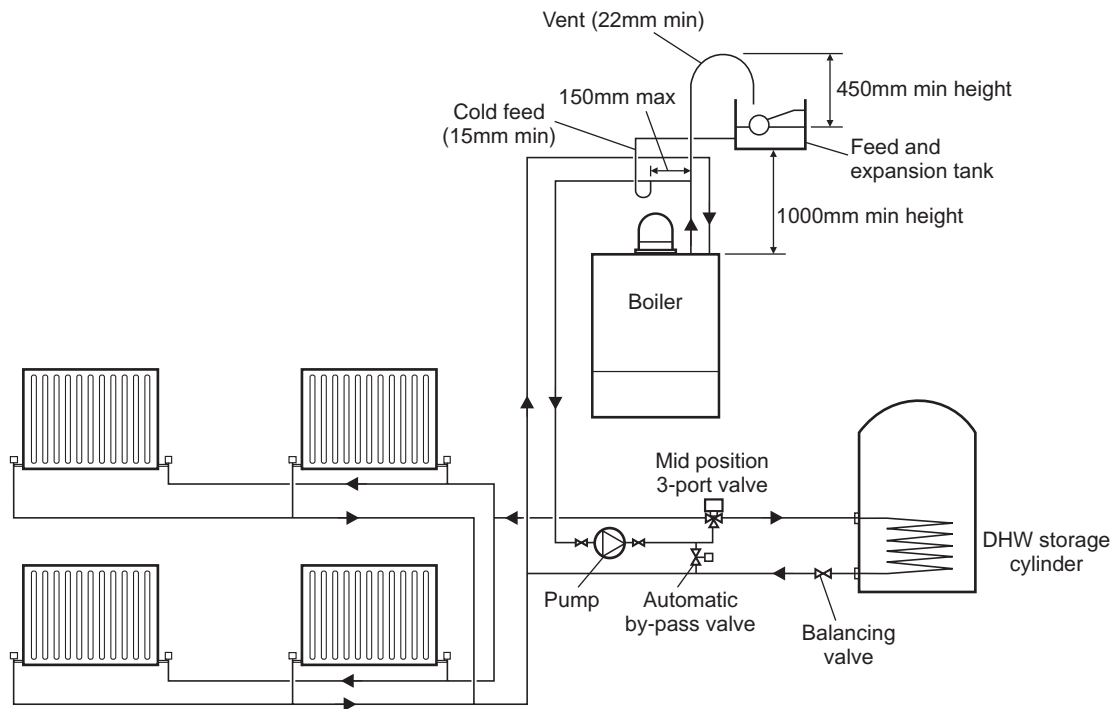
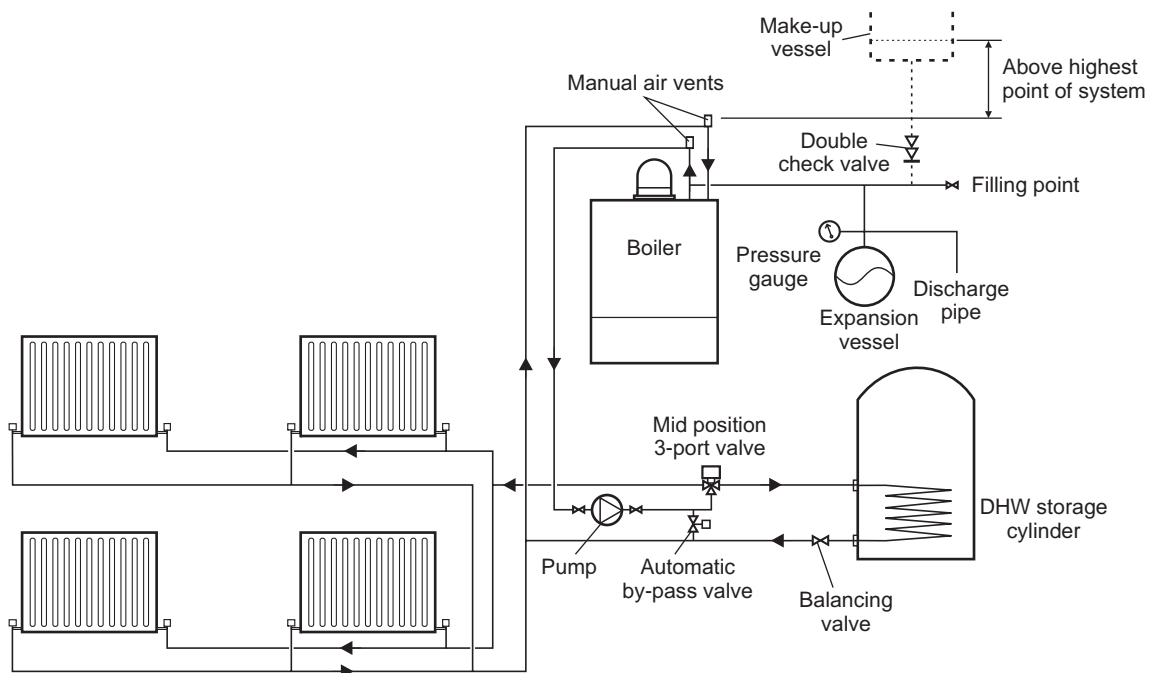
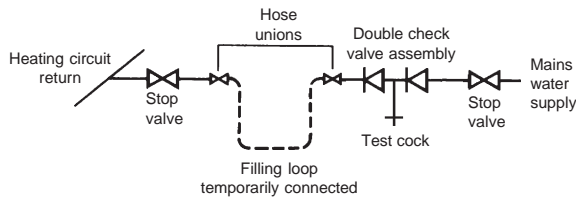
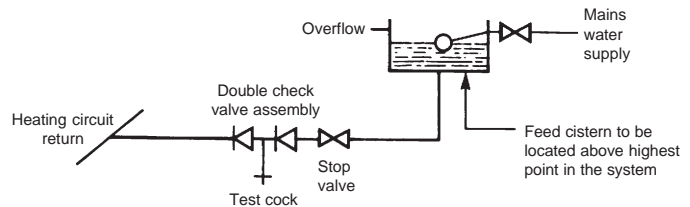

Fig. 5 - Open system with Y-Plan
Fig. 5a - Sealed system with Y-Plan
Fig. 6
Fig. 7
3.7 CENTRAL HEATING SYSTEM - Fig. 5 and 5a
It is important that the relative positions of the pump, cold feed and open vents are as shown in Fig. 5.
3.9 FILLING THE SEALED CENTRAL HEATING SYSTEM - Figs. 6, 7
The system design pressure (cold) should be set to 1.0 bar. This pressure is equivalent to a static head (see Fig. 5) of 10.2 metres of water. Provision should be made to replace water lost from the system. This can be by manual or automatic means, as shown in Figs. 6 and 7. The position for connecting an automatic make-up vessel is indicated in Fig. 5a. A double check valve assembly must be used, as shown in Fig. 7.
Filling of the system must be carried out in a manner approved by the local Water Undertaking. Where allowed, the system may be filled via a temporary connection as shown in Fig. 6. After filling, always disconnect the flexible hose of the filling loop.